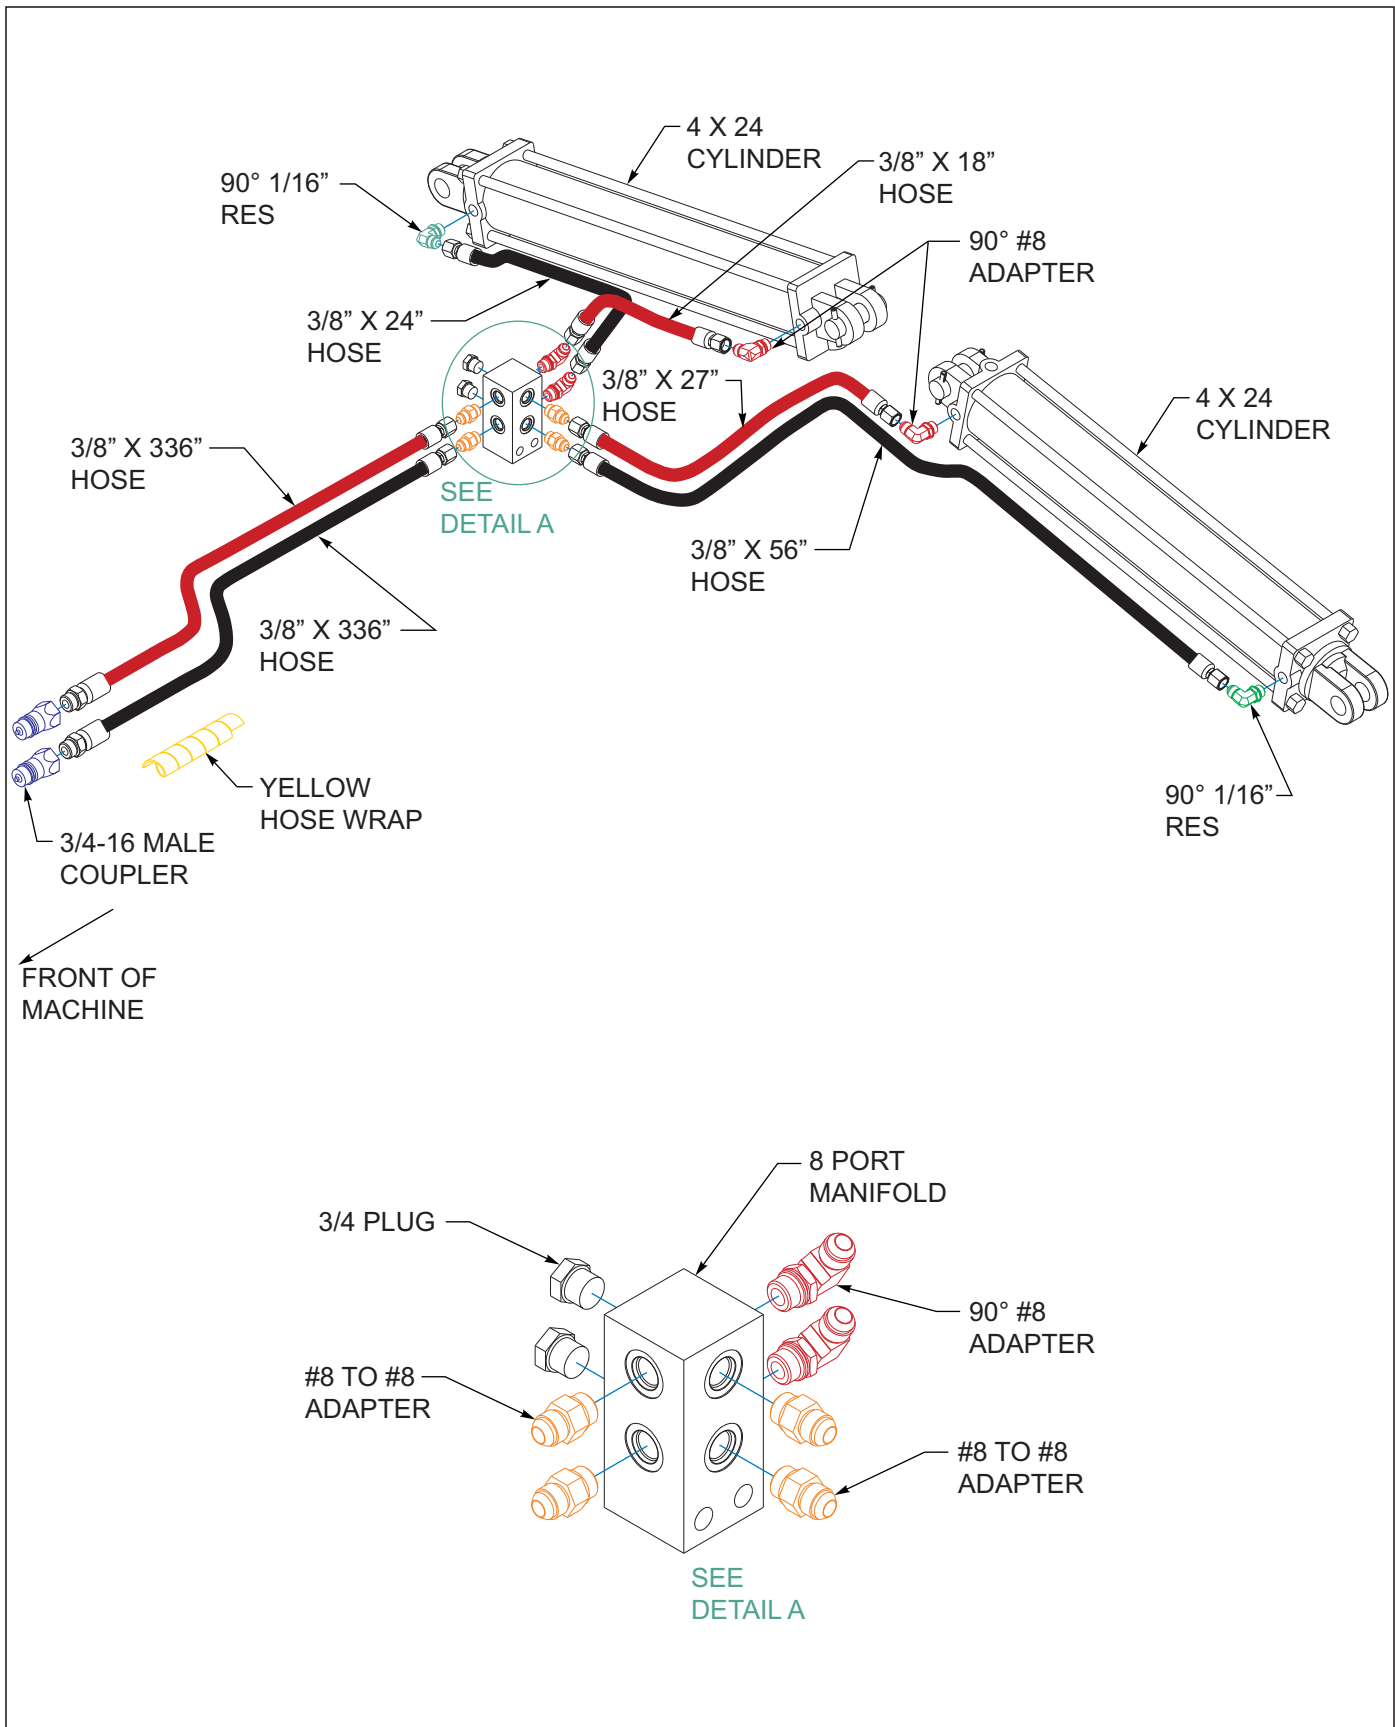

Figure 3-42: Hydraulic Fold Installation 8530-19'
5. Install the fold cylinder hoses as shown in *Figures 3-42 through 3-49*. Route the hoses along the right side of the hitch, and through the hose loops provided along the frames. Wrap the front two ends of the fold hoses with a yellow hose wrap.
3. Connect the fold system hoses to the tractor and charge the fold cylinders See Figures 3-42 through 3-49. When fold cylinders have been charged with oil, connect the rod end of the fold cylinders to the wing frames using 1-1/4 x 6-1/8 pins, flat washers and roll pins “Hydraulic Fold System” on page 4-3.